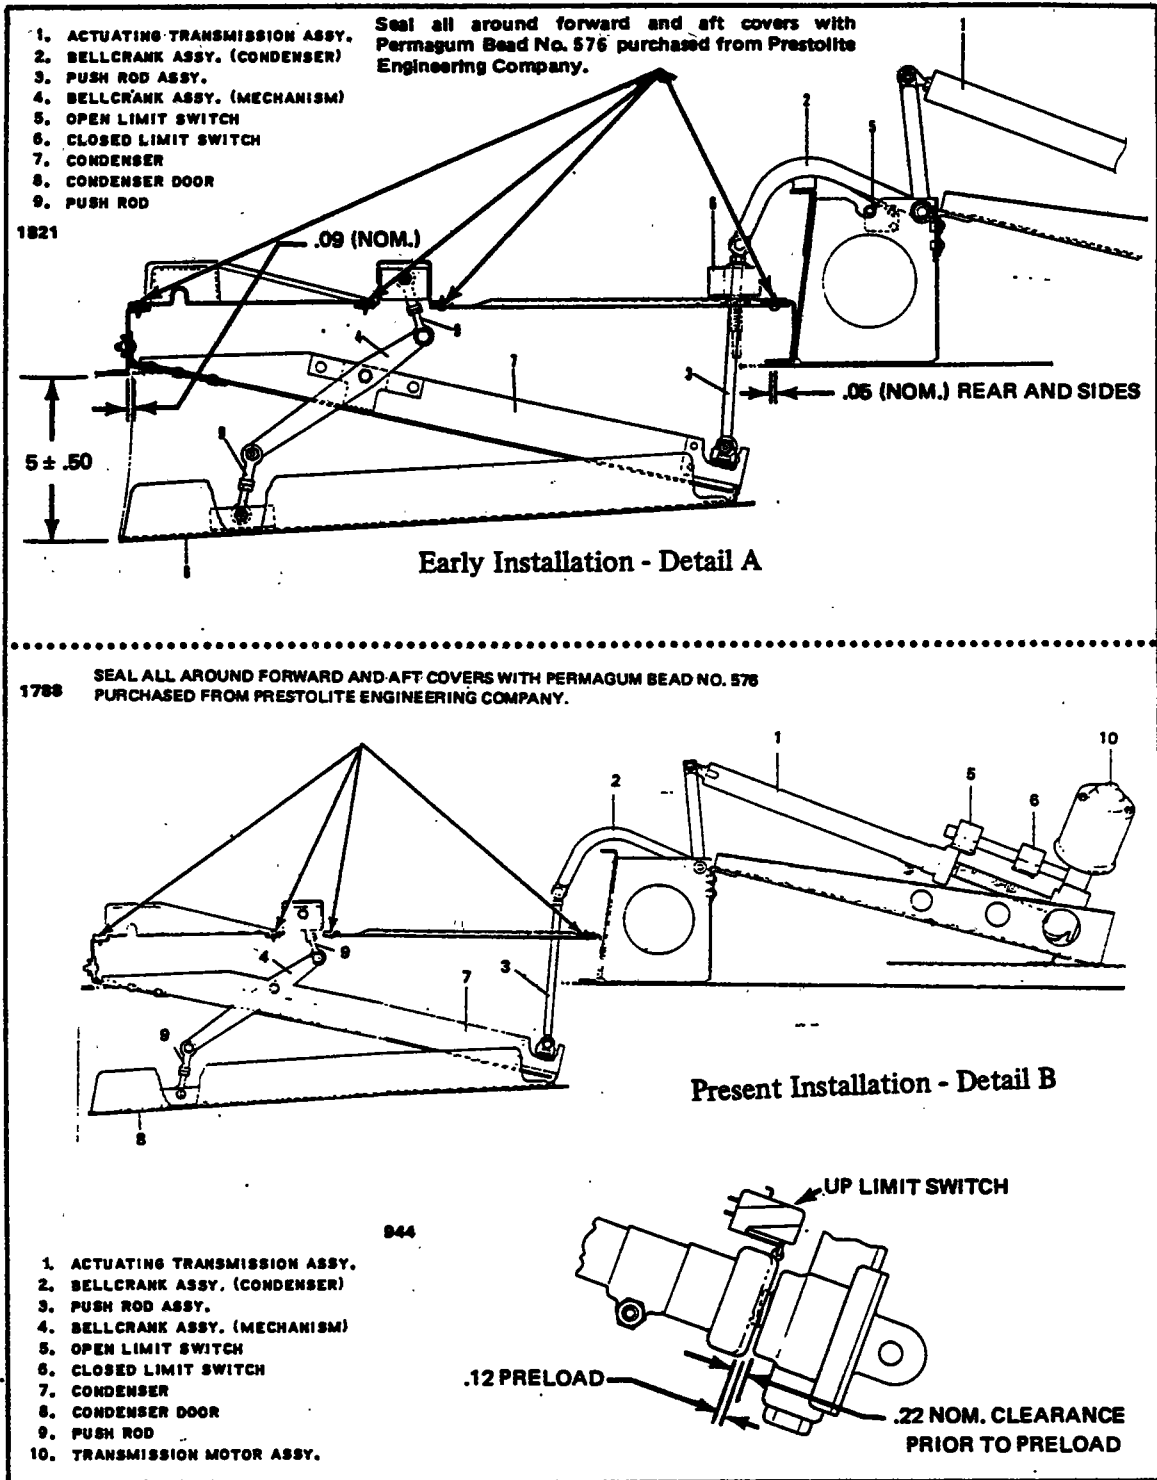

Figure 14-12. Condenser Air Scoop Installation
- b. Place the condenser and frame assembly to the fuselage frame mounting bracket and insert the (8) screws into the piano hinge.
- f. Seal all around forward cover panel (and aft cover panel if removed) with Permagum Bead No. 576 purchased from Prestolite Engineering Company. (See Figure 14-12.)
**14-34. CONDENSER DOOR ACTUATOR.** The actuator is on a bracket mounted between two bulkheads in the tail cone. It is coupled to the condenser assembly through a bellcrank mounted to a bracket on the bulkhead aft of the condenser. The actuator travel is controlled by two limit switches. On early installations the down switch is located on the inboard bellcrank support and the up switch on the condenser frame. On later installations both the up and down switches are located on the actuator. Refer to Figure 14-12 for the switch locations of the particular installation.
### 14-35. CONDENSER ASSEMBLY RIGGING INSTRUCTIONS. (Refer to Figure 14-12.)
There are two installations of this system. The first or early installation had the limit switches located as shown in Figure 14-12, Detail A. The second or present installation has the limit switches located as shown in Figure 14-12, Detail B. The instructions covering the adjustment of the limit switches will be covered in separate steps.
#### Early Installations: (Refer to Figure 14-12, Detail A.)
#### Present Installations: (Refer to Figure 14-12, Detail B.)
a. Adjust open limit switch (5) to open the condenser door (8) 5.00 + .50 inches when measured from the leading edge of the door to the fuselage skin.
b. Adjust the push rods (9) so that a vertically measured gap of .16 of an inch exists along the trailing edge of the door at the instant the forward edge of the door becomes flush with the fuselage skin.
c. With the door fully closed adjust the "CLOSED" (6) limit switch so that the actuator (1) travels an additional .12 of an inch after the door is fully closed, this is necessary to preload the mechanism. Refer to Figure 14-12, Detail B - View AA.